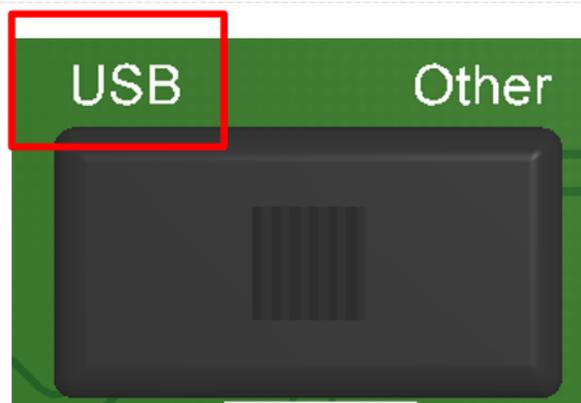

Figure 20. USB vs Other = 'USB'
- If you are going to power the programming board with USB, set the switch to “USB” as shown in Figure 20